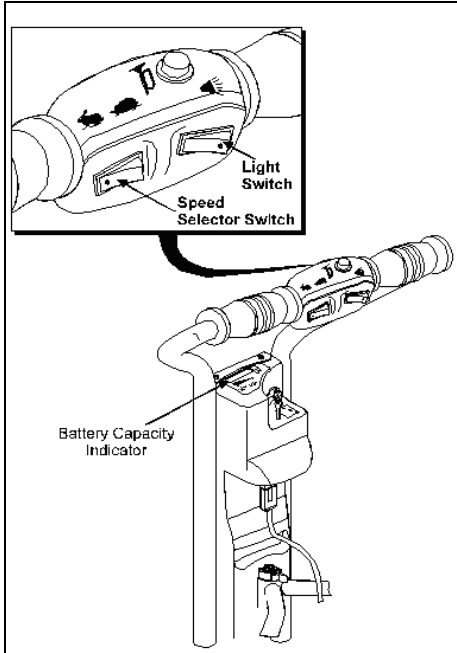

figure 15
- * When selector is in **Low Speed Mode** – Green light of switch is OFF. (See Fig. 15).
- 3.8 **Battery Capacity Indicator (See Fig. 15)**